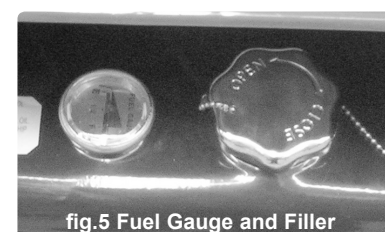

fig.5 Fuel Gauge and Filler
5.1.2 Fill the fuel tank (fig.5) with paraffin, kerosene or diesel until the fuel gauge points to "F".